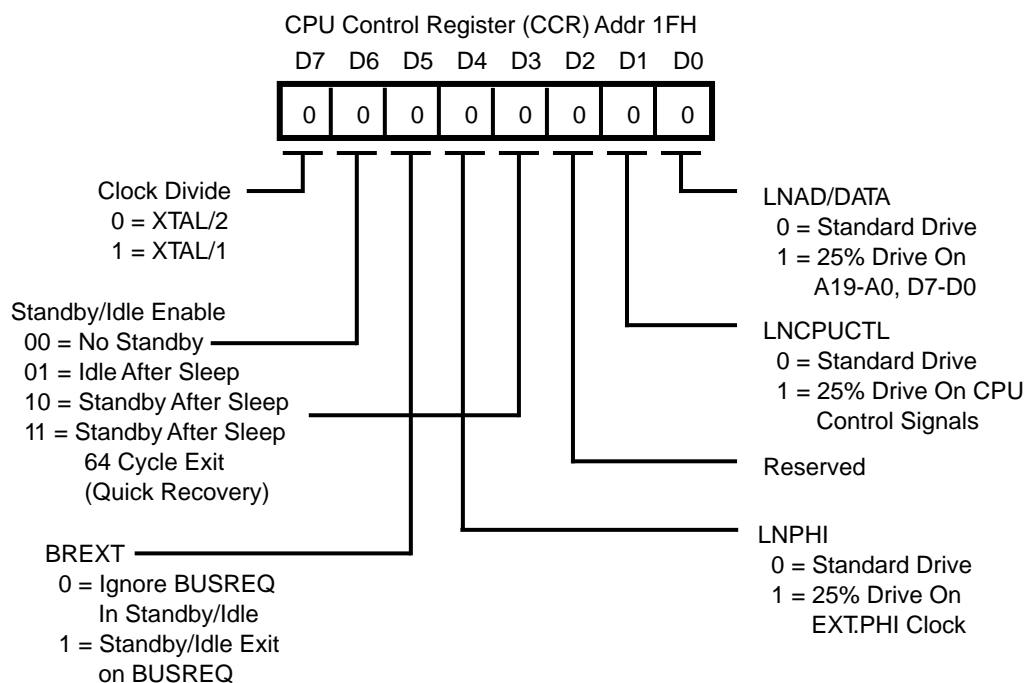

Figure 51. CPU Control Register
Read Registers. The ESCC contains ten read registers (eleven, counting the receive buffer (RR8) in each channel). Four of these may be read to obtain status information (RR0, RR1, RR10, and RR15). Two registers (RR12 and RR13) are read to learn the baud rate generator time constant. RR2 contains either the unmodified interrupt vector (channel A) or the vector modified by status information (channel B). RR3 contains the Interrupt Pending (IP) bits (channel A only). RR6 and RR7 contain the information in the SDLC Frame Status FIFO, but is only read when WR15, D2 is set. If WR7' D6 is set, Write Registers WR3, WR4, WR5, WR7, and WR10 can be read as RR9, RR4, RR5, and RR14, respectively. Figure 51 shows the format of each Read register.